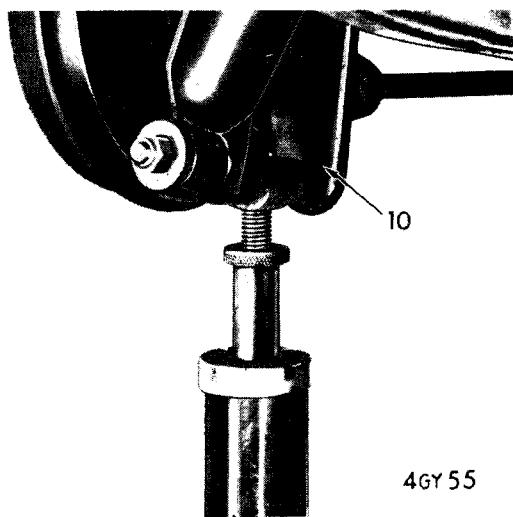
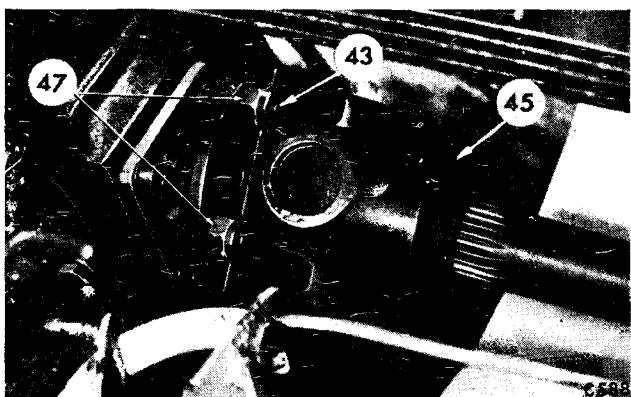

Fig. 22. Jacking up vertical link
Fig. 24. Axle shaft universal joint connections
3. Jack up the vertical link (10), as shown on Fig. 22, to relieve the dampers of load. Remove nuts (47), bolts (43), Fig. 24, and disconnect the axle shaft couplings.